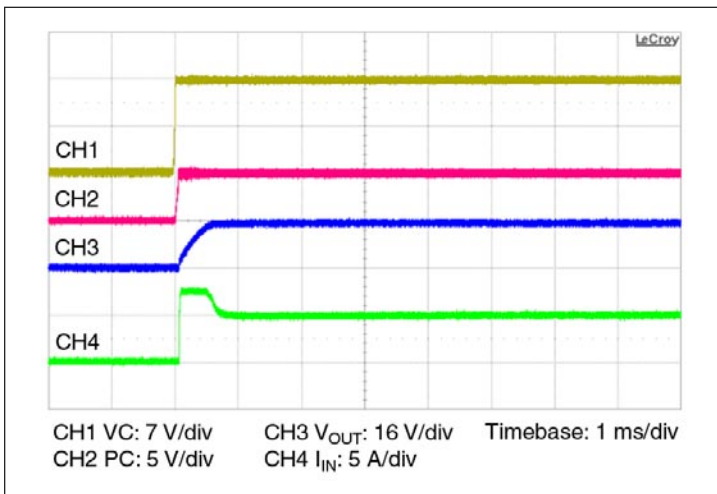

Figure 11 — Start up from application of VC;
- Stand-alone operation (VC applied after V_{IN}): In this case the VTM output will begin to rise upon the application of the VC voltage (See Figure 11). The Adaptive Soft Start Circuit (See Section 11) may vary the output rate of rise in order to limit the inrush current to its maximum level. When starting into high capacitance, or a short, the output current will be limited for a maximum of 1200 μ sec. After this period, the Adaptive Soft Start Circuit will time out and the VTM module may shut down. No restart will be attempted until VC is re-applied or PC is toggled. The maximum output capacitance is limited to 800 μ F in this mode of operation to ensure a successful start.